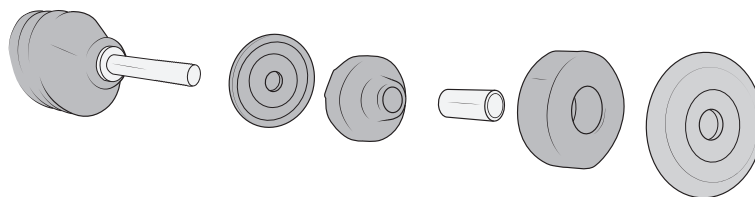

Figure 15
6. Assemble the shock bushings as shown (fig. 15) then install AEV shocks. Torque the lower bolt to **136 lb-ft**